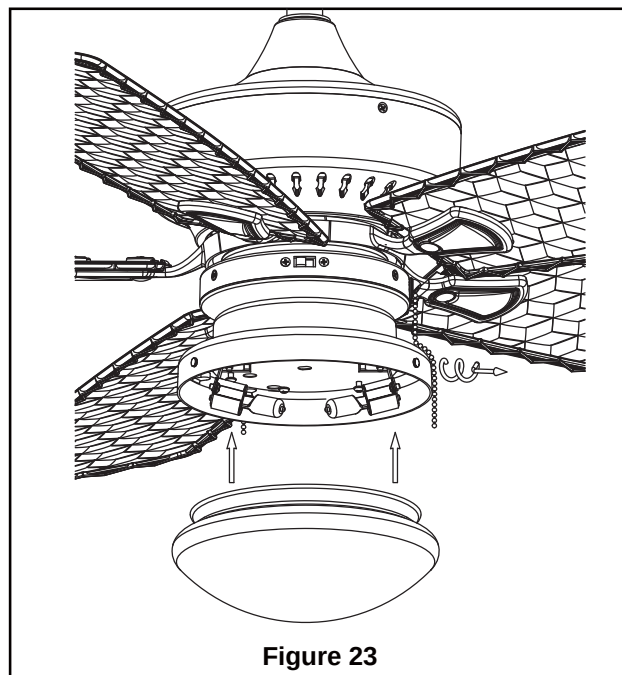

Figure 23
- ☐ 2. Loosen the three thumb screws provided on the rim of the light kit so the lip of the glass can be raised up into the light kit. (Figure 23)